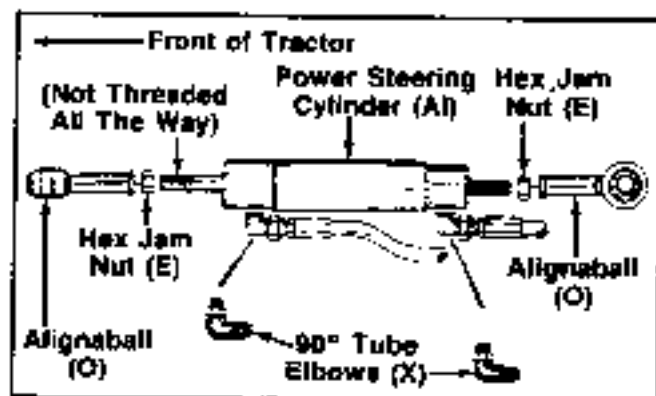
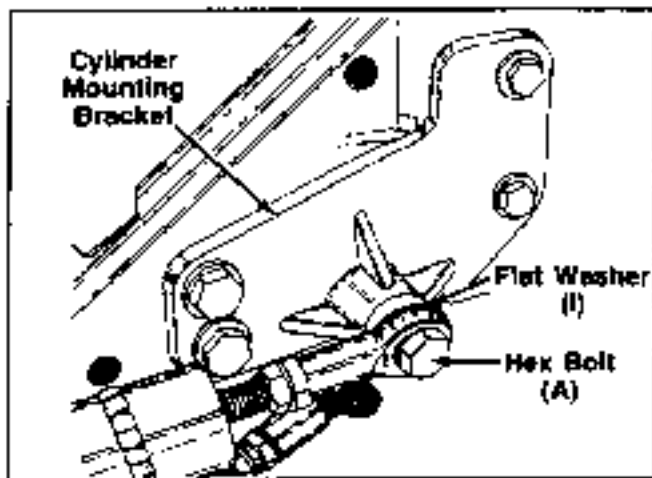

FIGURE 29.
FIGURE 30.
30. Assemble two 90° tube elbows (male/female) fittings (X) to the power steering cylinder (A) in the positions shown in figure 29.
31. Thread the two hex jam nuts (E), onto the steering cylinder ends. Thread the alignaball end (O) onto the rear end of the steering cylinder with 5/8 inch of thread into the alignaball in the position shown in figure 29. Tighten the hex jam nut to the alignaball.
32. Thread the remaining alignaball end (O) to the front end of steering cylinder. Do not tighten the hex jam nut at this time.
34. Assemble the rear end of the steering cylinder to the cylinder mounting bracket with the cylinder mounting bolt (A) and flat washer (I) as shown in figure 30.
36. Attach the steering hose assembly (AC) (10.5" long) to the 90° fitting on the front of the steering cylinder, making sure not to pinch the hose closed. See figure 29.
37. Attach the steering hose assembly (AD) (8.9" long) to the 90° fitting on the rear of the steering cylinder, making sure not to pinch the hose closed. See figure 29.